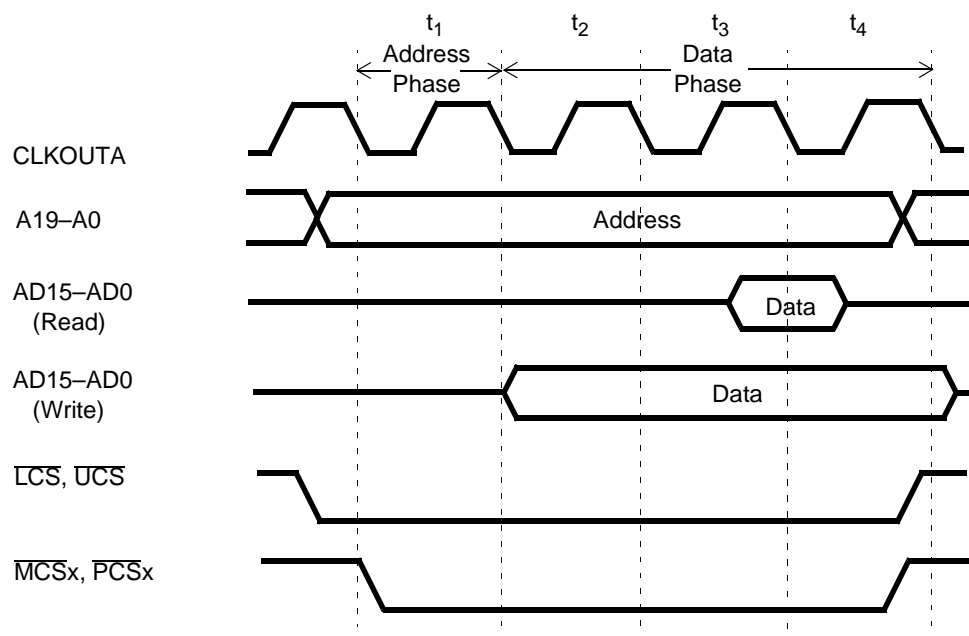

Figure 5. Am186ES Microcontroller—Read and Write with Address Bus Disable In Effect
- Figure 5 shows an Am186ES microcontroller bus cycle when address bus disable is in effect. This results in the AD bus operating in a nonmultiplexed address/data mode. The A bus has the address during a read or write operation.